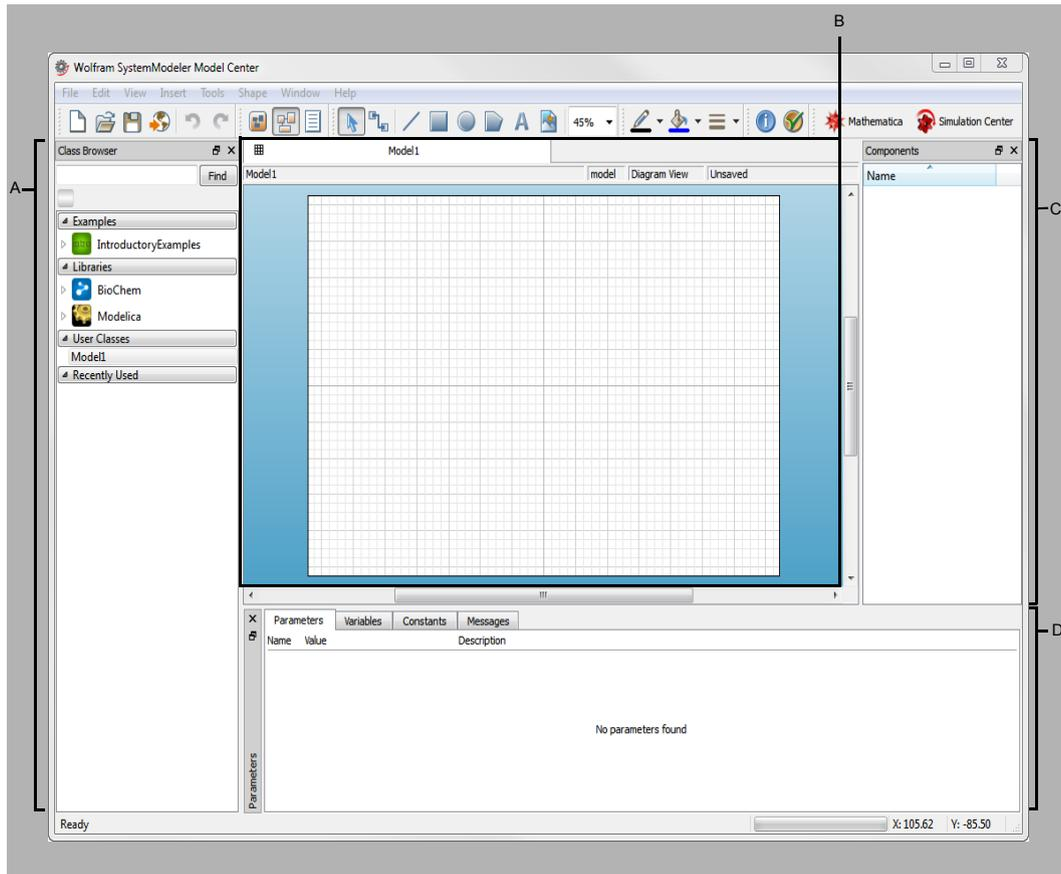

Figure 3-1: An overview of *Model Center*.
By default *Model Center* starts with four windows (see figure below): the **Class Browser** (A), a class window (B), the **Components** window (C), and a window with the **Parameters** view, **Variables** view, **Constants** view, and **Messages** view (D); see Figure 3-1.